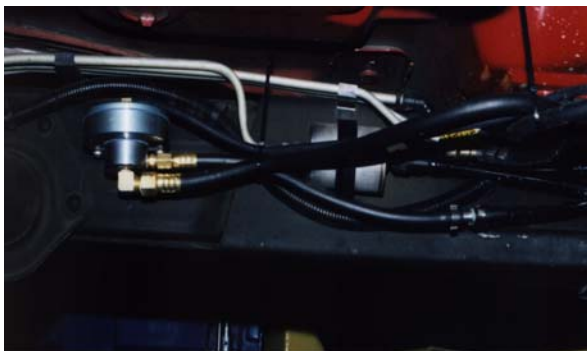

Figure 7
Step 15. Using the Fuel Regulation Unit (FRU) as a template, mark and drill the frame rail behind the fuel filter, as high as possible, using a 9/64" drill bit. See Figure 7. Disconnect the factory fuel return line at the fitting located in front of the filter. This will cause any fuel in the line to leak out of the line. catch the fuel in a pan, Make sure to not disconnect the feed line. (The feed line is the line that comes out of the filter and runs to the throttle body).
Connect the supplied 12" fuel line to the fitting on the side of the FRU. Connect the 24" female line to the fitting on the bottom of the FRU. Connect the FRU to the frame rail using the screws provided. Connect the female line to the male part of the fitting on the fuel return line. connect the male line to the female part of the fitting on the fuel return line. Use the supplied tie wraps to secure the FRU lines to the frame rail. Make sure that FRU lines are secured out of the way and cannot be cut or snagged by road debris. See figure 7.